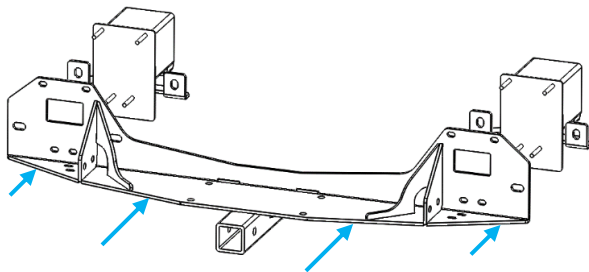

Figure 19: Slide receiver assembly onto frame mounts
22. Slide your Aluminess Front Receiver onto the (8) M8 bolts on the frame (Figure 19). Ensure the air flow skirt is resting below and behind the front receiver assembly.